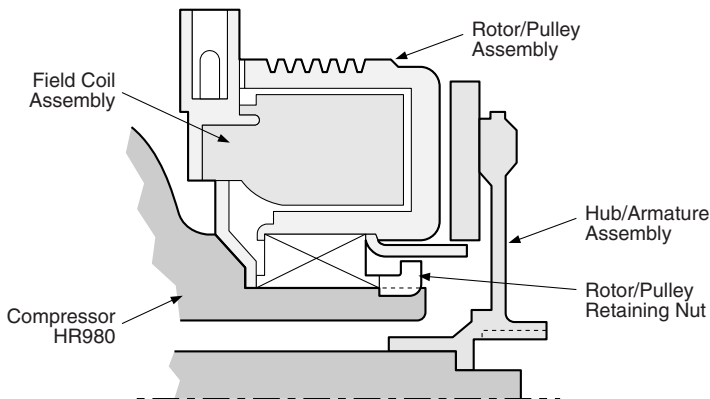

Figure 6
Step 2B: Installing the Field Coil (2) and Rotor/Pulley Assembly (4) (HR980 Compressor only)
- A. Align square holes in the back plate of the coil assembly (2) with lugs on the compressor (1) housing.
- B. With the field coil (2) in position, slide the rotor/pulley (4) onto the compressor until it butts against the field coil (2). (See Figure 6) If the rotor/pulley does not slide on easily, check the mounting surface on the compressor nose for nicks or burrs and remove them. If the rotor/pulley still does not slide on easily, rock the rotor/pulley back and forth by hand until it slides completely onto the compressor.
- C. Install the rotor/pulley retainer nut (6) with flange notches facing **AWAY** from the rotor/pulley assembly. Tighten the retainer nut to 65 to 75 lb.ft. torque.
Step 3: Installing the Rotor/Pulley Assembly (4) (All Compressors except HR980)